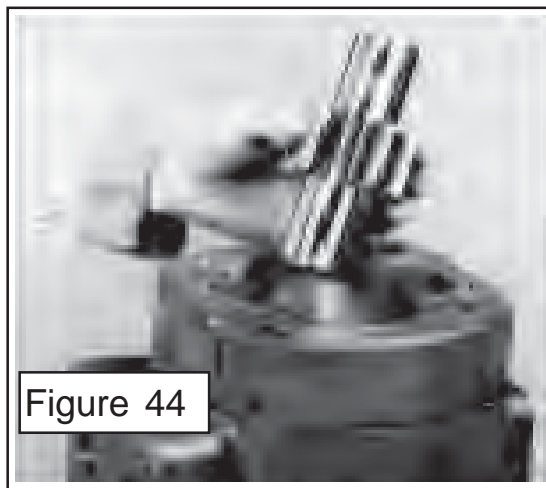

Figure 44
20. Place the thrust plate (figure 10 item 7 & 8) into the gear housing as per step 14. Coat the journal of the drive gear and the driven gear insert the drive gear aligning the splined shaft end over the splined connecting shaft. Insert the driven gear into the gear housing aligning gear teeth with the drive gear. **DO NOT** force the gears in, they must slide in smoothly and mesh together (figure 44). Make certain the gears are seated completely down and against the thrust plate face.